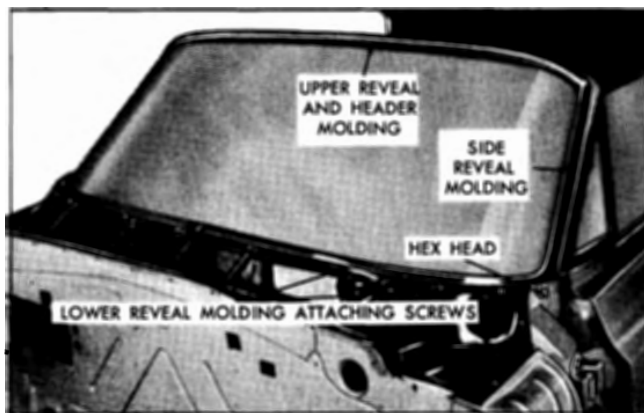

Fig. 2-3 Windshield Reveal Moldings
**NOTE:** The outermost attaching screw on each side of the lower molding is hidden by the front fender and may be removed by opening the front door. The outer molding clips are slotted allowing removal of the molding without completely removing the attaching screw (Fig. 2-3).
5. Remove lower reveal molding attaching screws except end screws, open door loosen both end attaching screws, lift up molding disengaging slotted clip from screws and remove molding (Fig. 2-3).